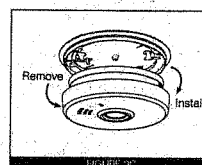

FIGURE 3C
- To activate the alarm, install the alarm on the mounting bracket (Figure 3C) and rotate the alarm clockwise (as indicated on the alarm cover) until the alarm snaps into place.